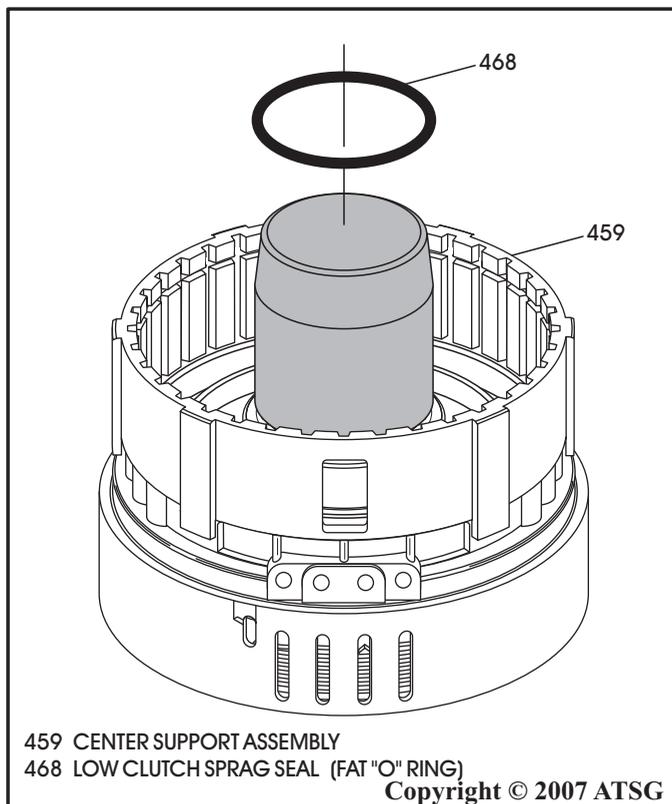

Figure 111
15. Turn the center support over on flat surface, as shown in Figure 111.
16. Install the sprag lube seal (Fat "O" Ring), as shown in Figure 111.
*Note: There is an installation cone available as shown in Figure 111, but is not really a mandatory tool.*